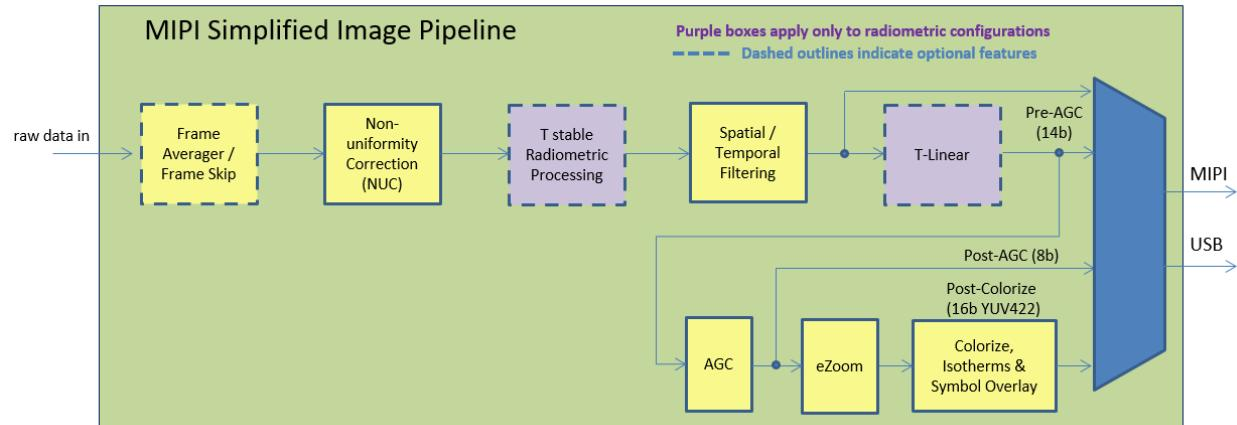

Figure 2: Boson Signal Pipeline – MIPI OUTPUT ENABLED
- **Radiometry Enabled Pre-AGC (14-bit) (factory default with Radiometry enabled):** On Radiometry enabled cameras the T-stable or T-linear tap point is available. See *Figure 2* below, as well as datasheet. The *T-linear conversion from 14-bit image to temperature in Kelvin is counts/25 rather than counts/100*